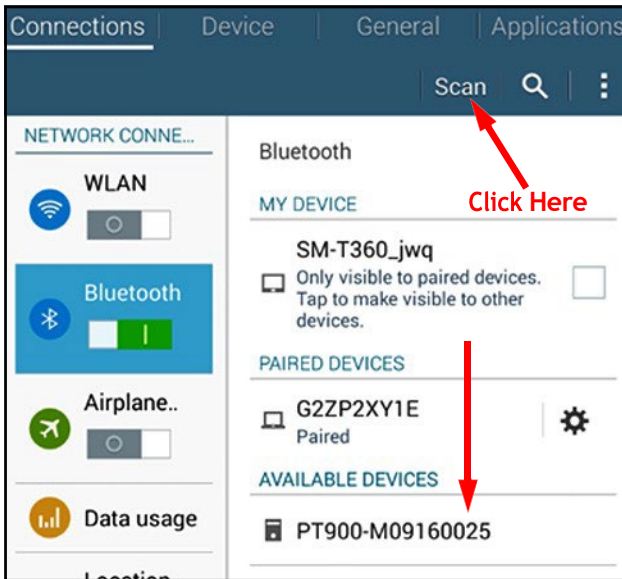

Figure 66: Available Devices List
- In Android, APP will search for all available transmitters via Bluetooth. After the scan has been completed, any new transmitters which were found are listed in the AVAILABLE DEVICES section of the tablet screen (see red arrow in Figure 66 below). Click on your transmitter to pair it with the tablet via Bluetooth.